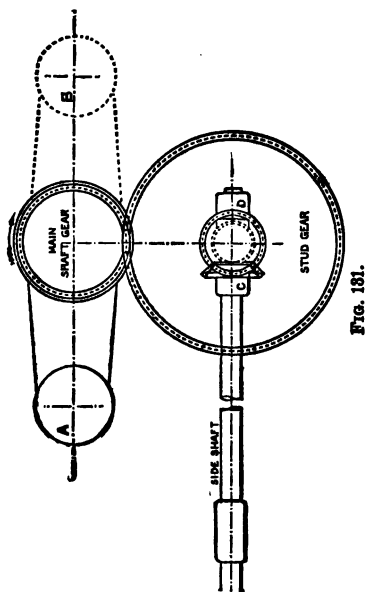
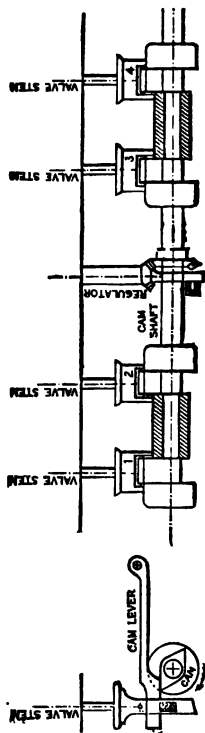

Fig. 131.
FIG. 132. PUTNAM VALVE GEAR.
A. Before setting the valves, the set screw in the bevel gear on the side shaft (which operates the valve gear) should be screwed up tightly and also the main shaft gear as shown in Fig. 131. The gear *C*, as shown in Fig. 132 on the side shaft, is in the proper position to run the top of the
A. First, steam valve No. 2, then exhaust valve No. 4, then steam valve No. 3, and last, exhaust valve No. 1. See Fig. 132.
A. Beginning at the cam No. 2, make a scratch mark or line on the valve stem (above the cam)  $\frac{1}{8}$  inch below the packing box ; then turn the steam cam No. 2 by hand in the direction shown by the arrow in Fig. 132 until it strikes the lever and raises it and the valve stem  $\frac{1}{8}$  inch as shown by the scratch line. Holding it at that point, tighten and set screw in the cam, hard.